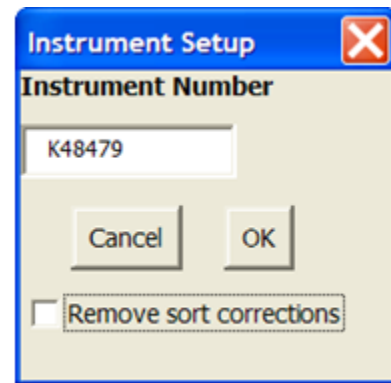

Figure 3
- 5.3.1. **SELECT** *Insert PDZ Files*. This will bring up the window with the serial number of the instrument (Figure 3).
- 5.5. **UNCHECK** *Remove sort corrections* (Figure 3).